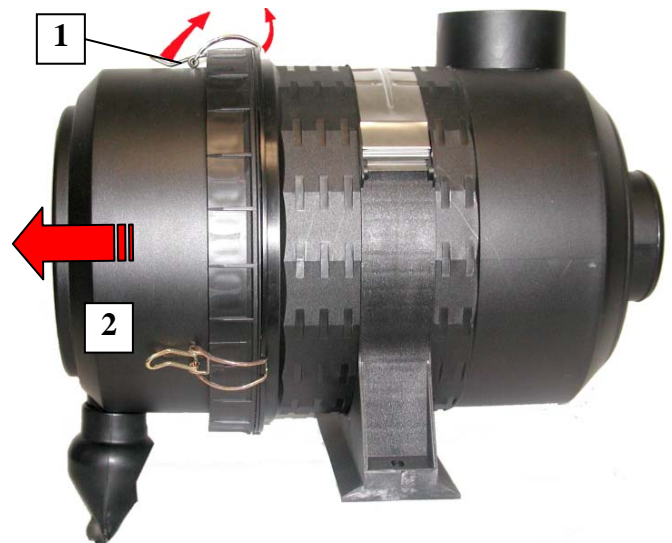

Fig. 4 Removing the bottom housing section
- Unlock the wire clamp fasteners (1) and remove the bottom housing section (2) (refer to Fig. 4).